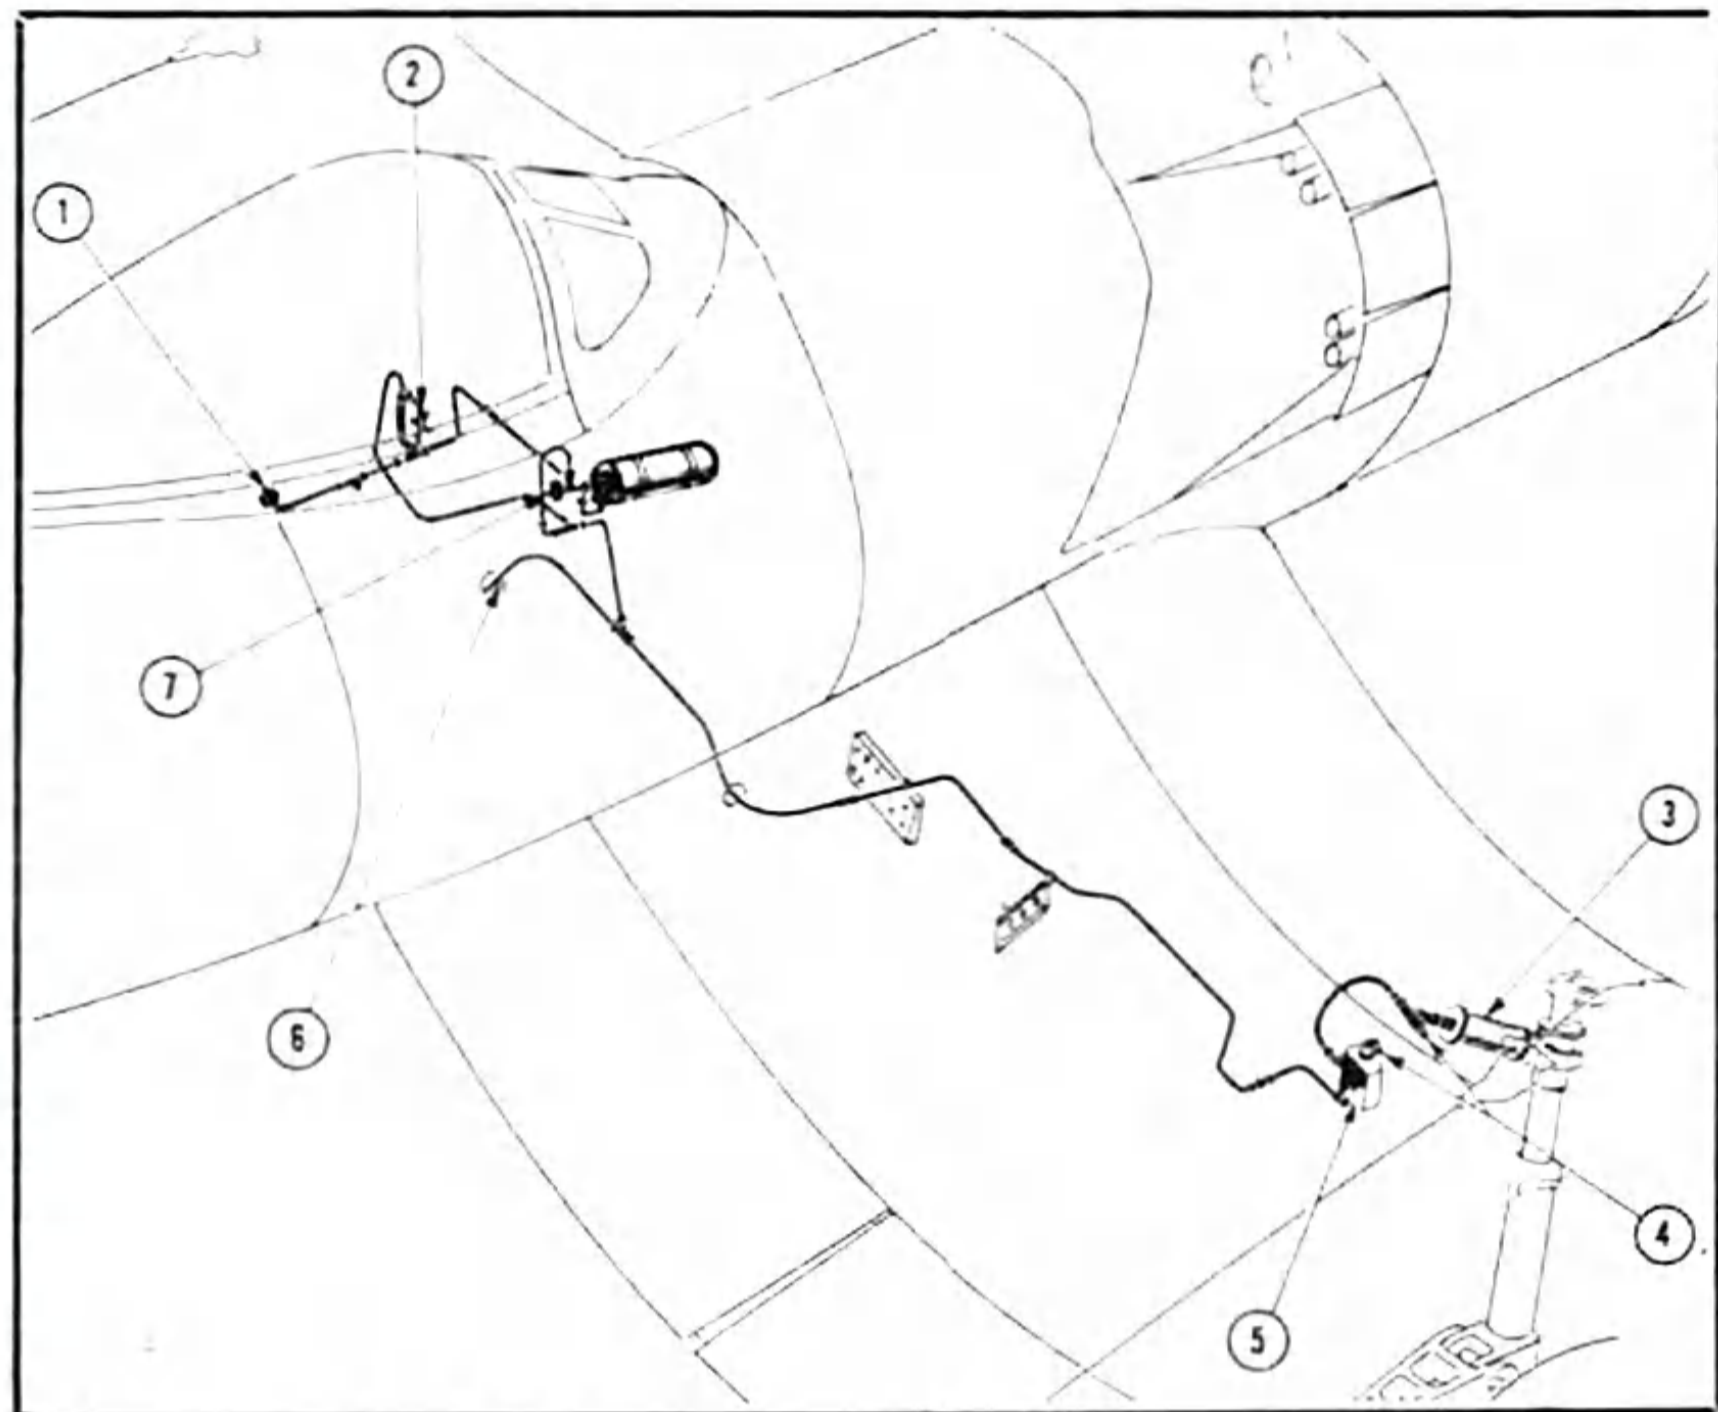

Figure 32 — Emergency Landing Gear CO₂ System
c. EMERGENCY EXTENSION OF LANDING GEAR. (See figure 32.) (Refer to section I, paragraph 2.e.(4) for description of CO₂ system.) — The following procedure is used for emergency extension of the landing gear following hydraulic system failure.